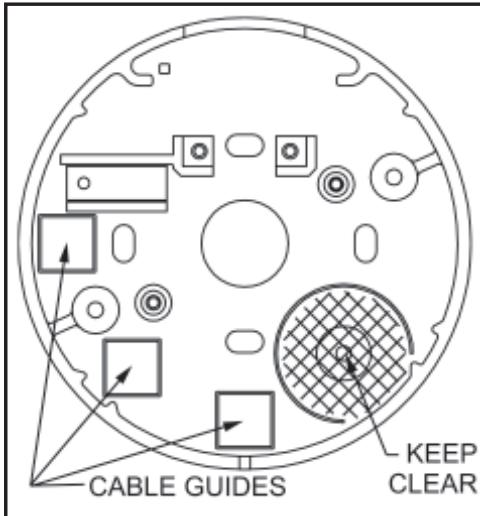

Figure 16 - Cable Guide Locators
4. Install at least one of the stick-on cable guides in an appropriate position to restrain the cables. (See Figure 16 for possible locations.)
6. Depending on the thickness of the container, additional cable guides may be necessary to ensure the cables are sufficiently restrained. Some possible locations are shown in Figure 16. Install additional guides as needed, and route the LCD and generator cables through them to ensure that the cables do not get routed through the “KEEP CLEAR” area, over the Zebra connector, or near where the geared end of the dial hub will project through the dial ring cover.
1. Align the dial ring cover with the dial ring so that the generator will seat into the five o’clock position and the four aligning lugs align with the corresponding slots in the dial ring. (See Figures 16 and 17.)